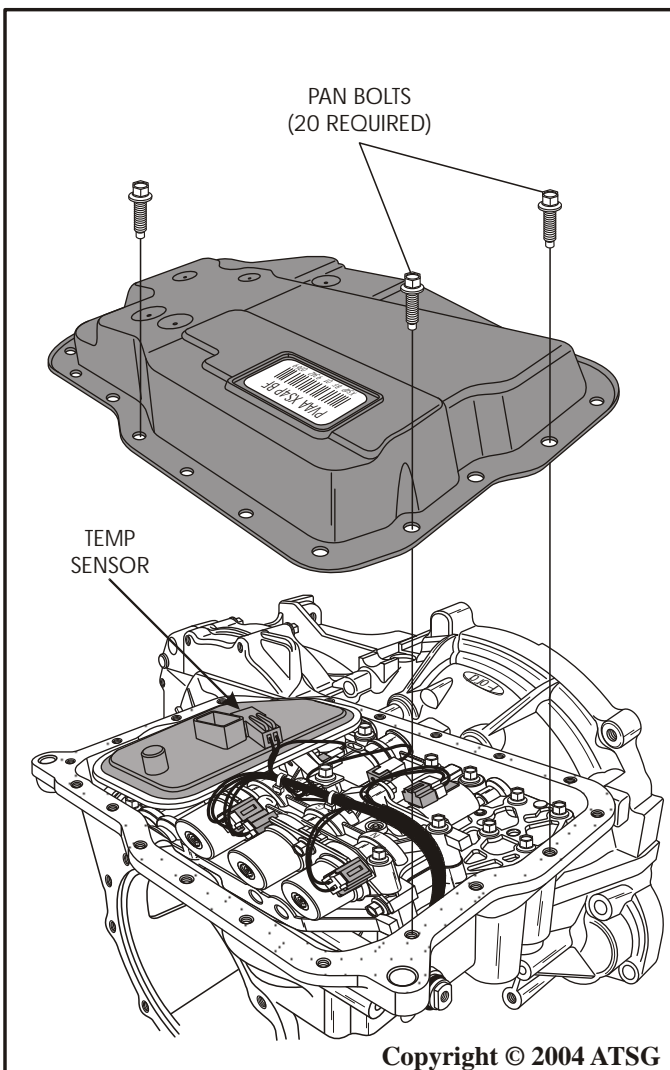

Figure 34
29. Remove the 20 bottom pan bolts, as shown in Figure 34, and remove bottom pan.
30. Remove TFT Sensor from filter and lay to one side (See Figure 34).